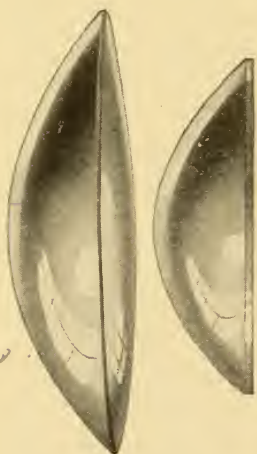

FIGURE 99I
Mazda lamps of course emit an equal amount of light in a direction opposite to that of the condenser. It is desirable to make use of as much of this light as is possible. (193) This has been accomplished by locating a spherical glass reflector pictured in Fig 99F behind the lamp. This mirror reflects from 80 to 85 percent of the light incident upon its surface and the greater part of the light is brought to a focus in the plane (or planes) of the filament, in the form of an inverted and reversed image of the filament. (194) In the case of the monoplane filament the mirror is positioned so that the image of the filament dovetails with the filament coils, as shown in Fig. 99I. With the mirror adjusted in this way, most of the reflected light flux merges with the beam from the filament coils and passes on to the collector lens.
(203) The aspheric condenser, Figure 99I, has a non-spherical surface that tends to reduce spherical aberration.